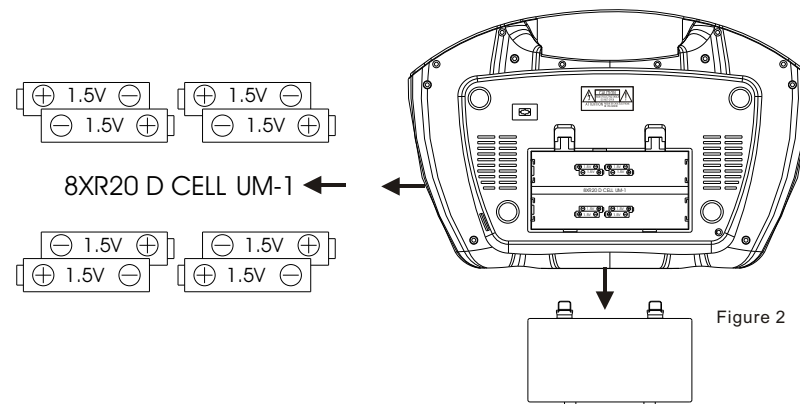

Figure 2
- Insert 8 "D" size (UM-1) batteries into the battery compartment as shown in figure 2 below. Be sure to observe the polarity markings which are engraved inside the battery compartment. If the batteries are inserted incorrectly, the unit will not operate.